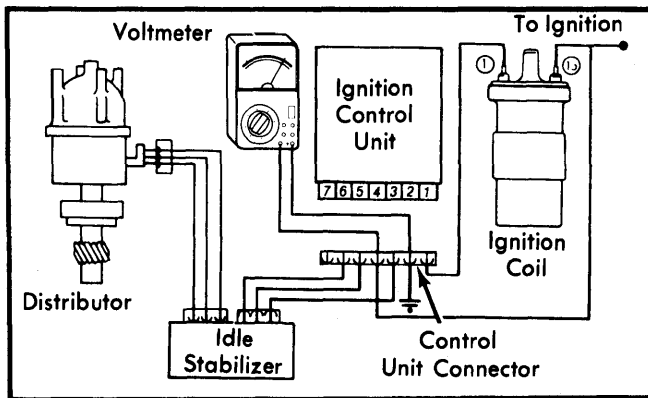

Fig. 5 Voltmeter Hookup for Control Unit Voltage Check
1) Disconnect connectors from idle stabilizer and connect them to each other. Reconnect connector to distributor. Remove connector from electronic ignition control unit. See Fig. 5. Connect positive voltmeter lead to terminal 4 of control unit harness connector. Attach negative lead to terminal 2 (ground).